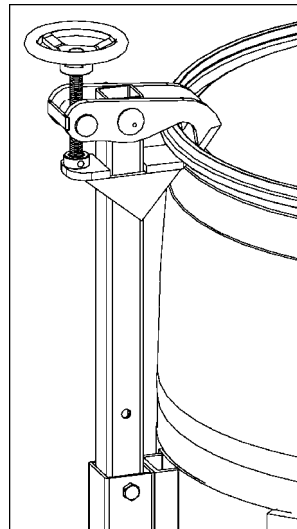
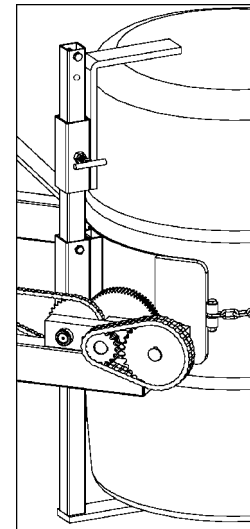

Figure 2.1
Figure 2.2
- A 55-gallon plastic drum can be handled with either the Adjustable HDPS Bracket (Part # 1465-P) or the Top Rim Clamp (Part # 3540-P). Use the Top Rim Clamp with a plastic drum that has a suitable top rim (see figure 2.1). Use the Adjustable Bracket for a drum with or without a top rim (see figure 2.2).